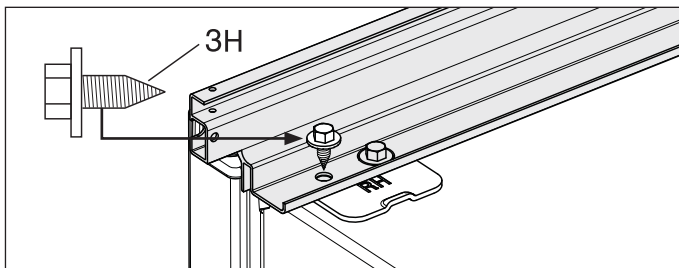

Figure 2-22.
9. a. Remove outer hinge screw common on both sides for a dual installation, (for a single installation this screw is removed in Step 6. Align the top trim and attach with a 3/8" socket. Repeat for opposite side. (See Figure 2-22).